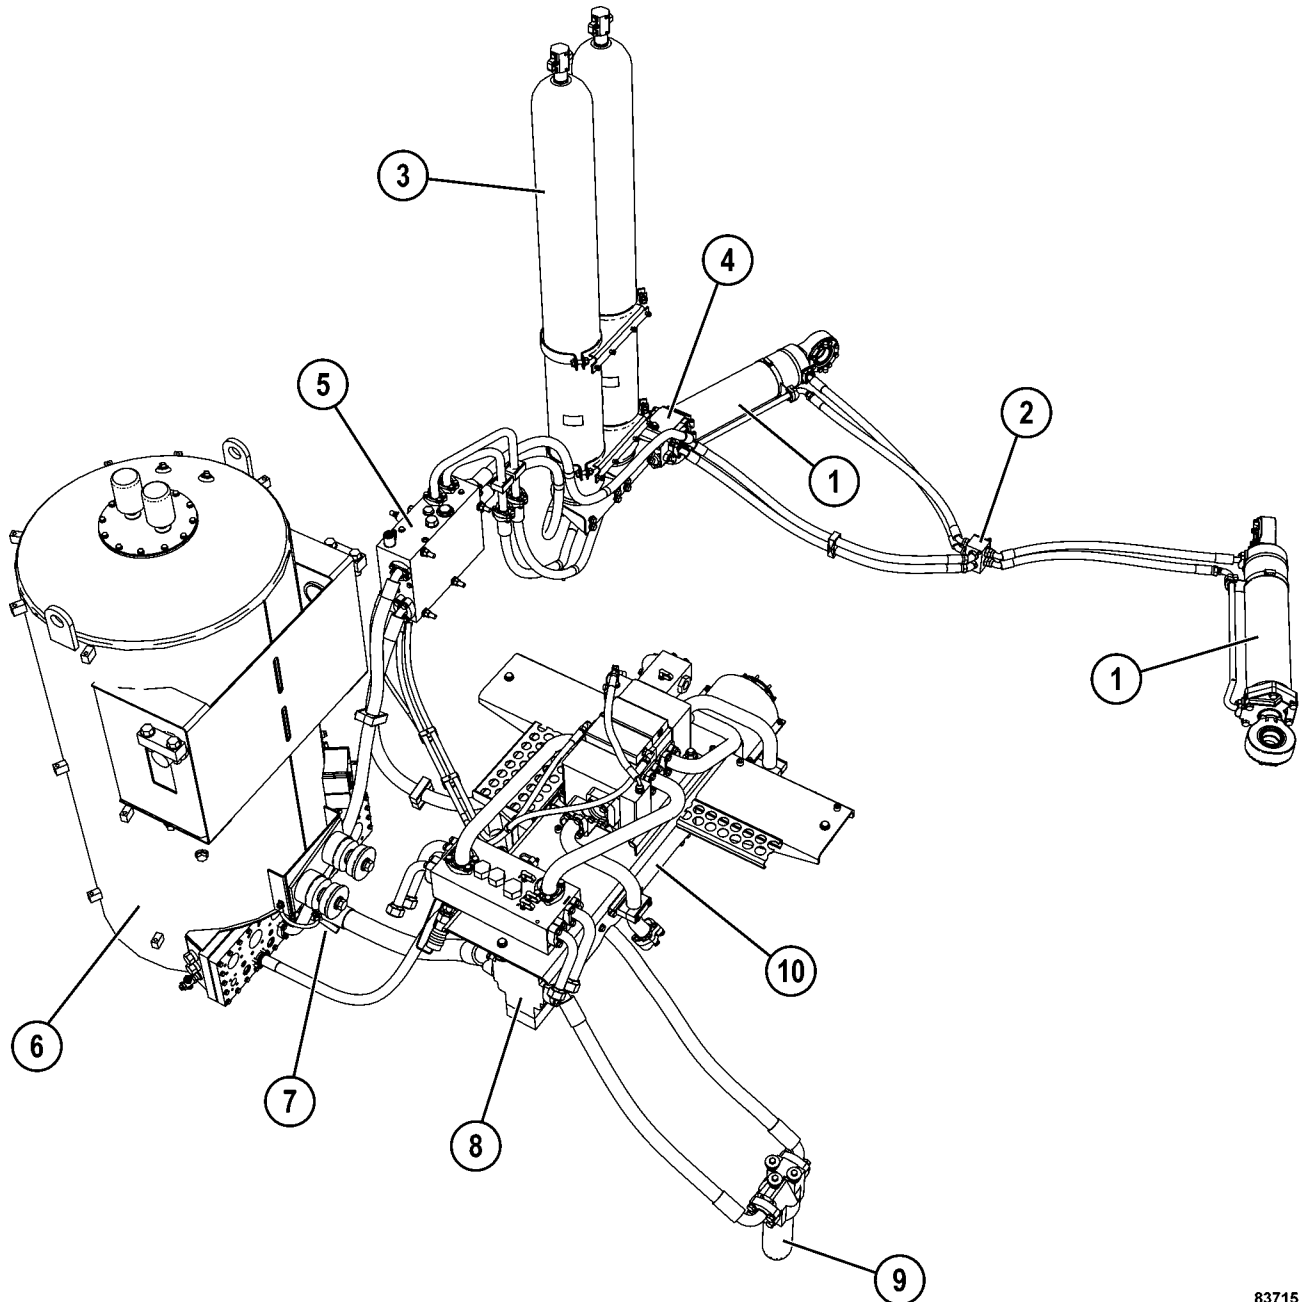

FIGURE 4-1. STEERING SYSTEM COMPONENTS
Pump (8, Figure 4-1) supplies oil to bleeddown manifold (5) after passing through high pressure filter (9). This oil supply is then distributed to the brake system and steering system.